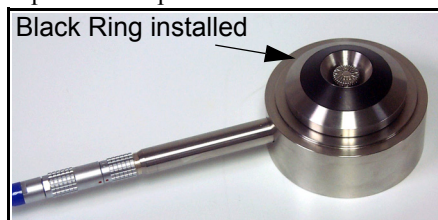

FIGURE 5-33 Black Conical ring installed on AEC201
- Step 4** Place the black conical ring (FIGURE 5-33) on the top of the coupler.